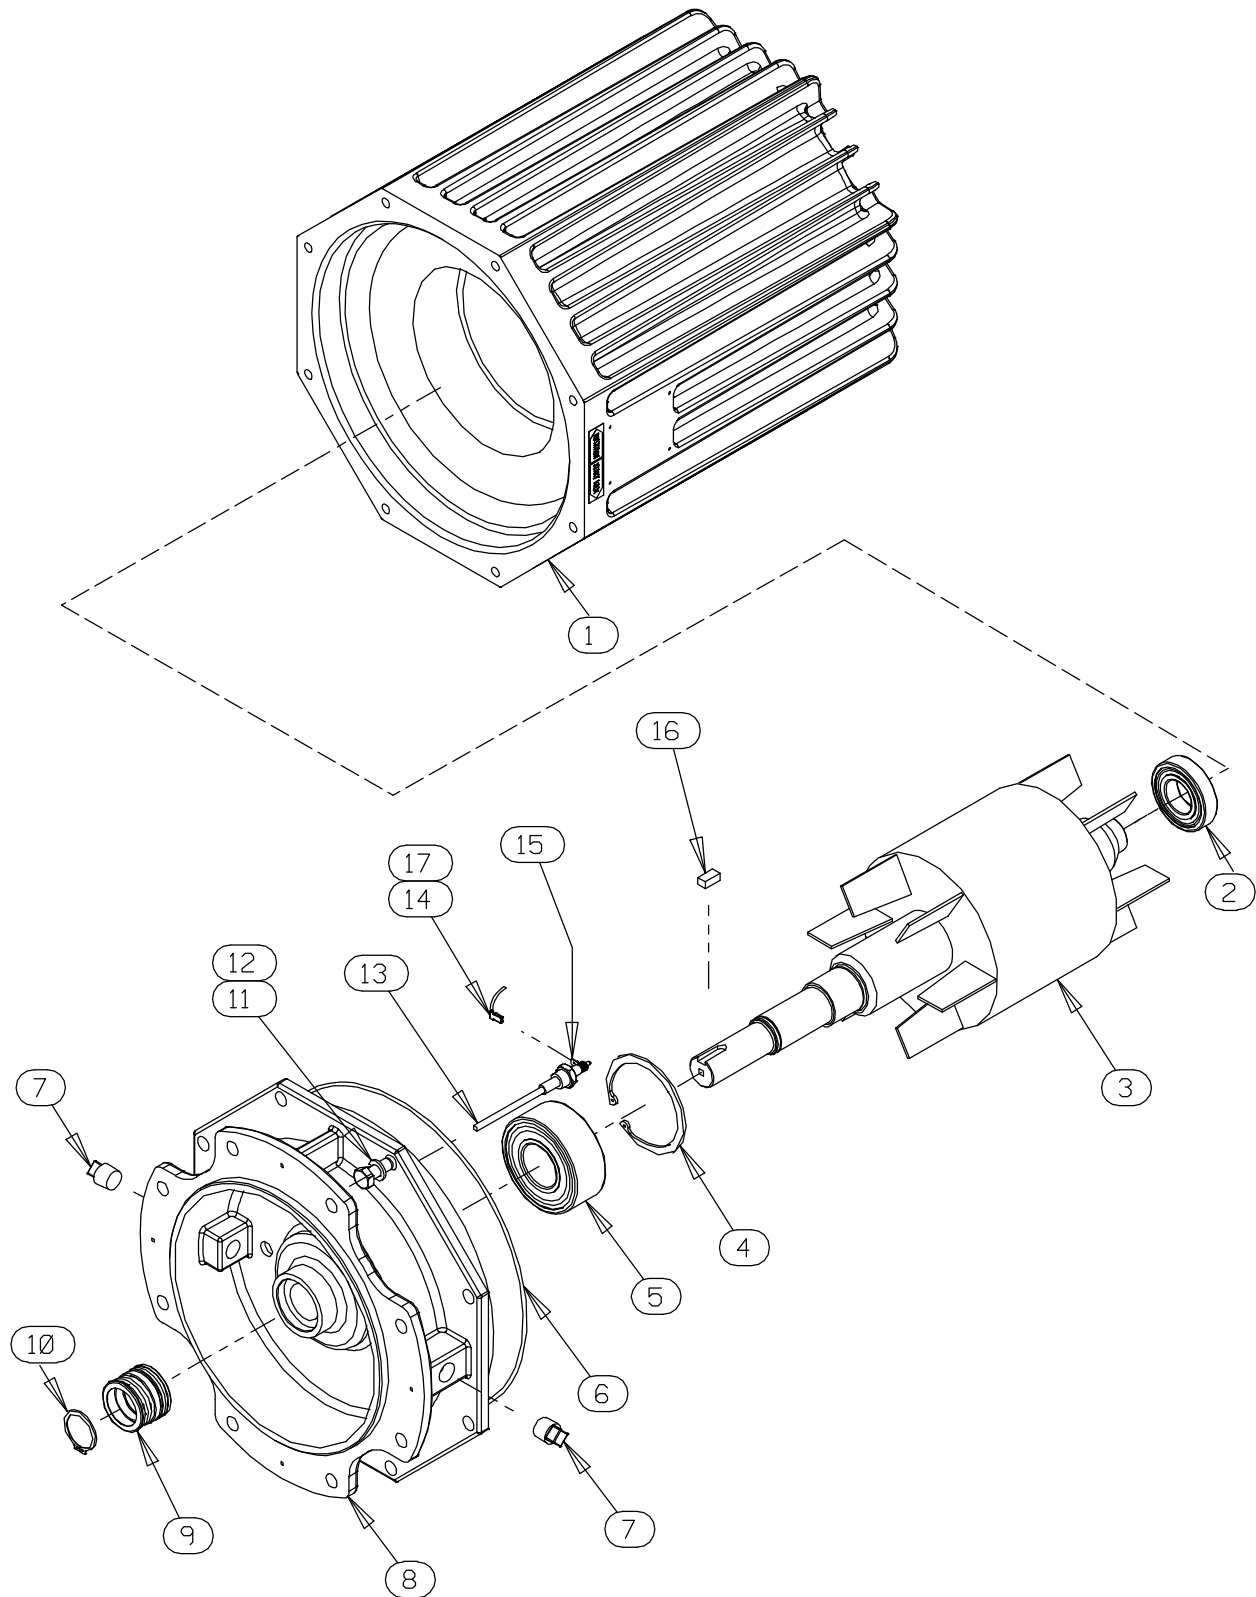

Figure E-2. Motor Assemblies
(Figure E-2)
To remove the impeller, use two thin-bladed screwdrivers positioned 180° apart to pry on the back of the impeller and “walk” the impeller off the shaft. Use increasingly larger screwdrivers (or wedges) as necessary. After the impeller comes free of the shaft, retain the impeller key (16, Figure E-2).
An alternate method of removing the stationary element is to remove the screws (21) securing the seal plate (12) to the motor assembly (1). Pry the assembled seal plate and stationary element off the shoulder of the intermediate (8, Figure E-2). Remove the O-ring (19) and press the stationary element and seat out of the seal plate from the back side.
(Figures E-2 and E-3)